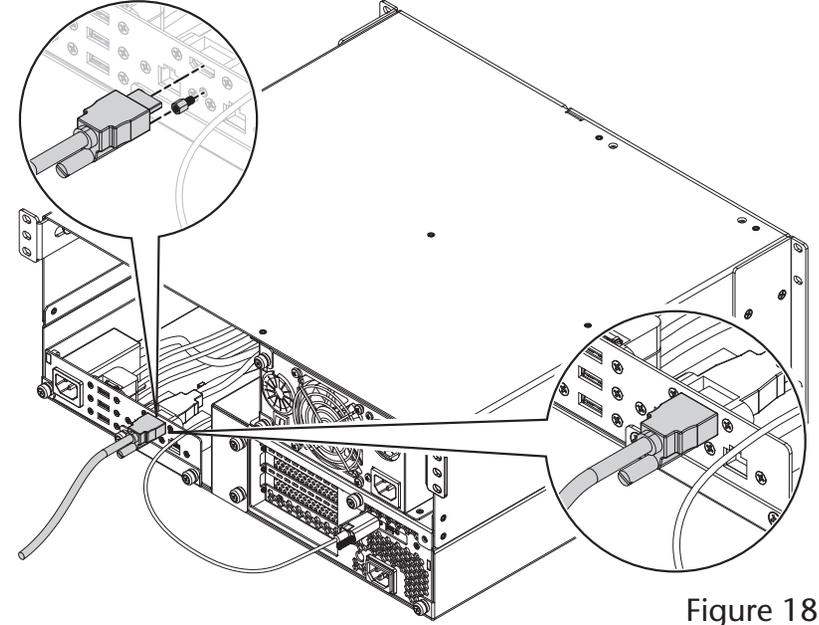

Figure 18
14. OPTIONAL STEP: If you are connecting a monitor with an HDMI input to the xMac Pro Server, screw in the included standoff to the threaded hole just below the HDMI port on the back of the computer mounting module (**Figure 18**). Then, plug in the included HDMI cable to the computer mounting module's HDMI port, securing the locking connector by turning its thumbscrew clockwise. Plug in the other end of the cable to the monitor.